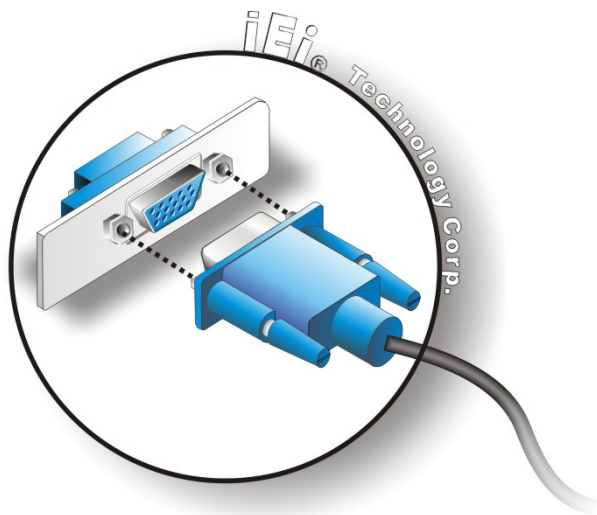

Figure 3-17: VGA Connector
- Step 3:** **Insert the VGA connector** Once the connectors are properly aligned with, insert the male connector from the VGA screen into the female connector on the TANK-101B/BW. See **Figure 3-17**.